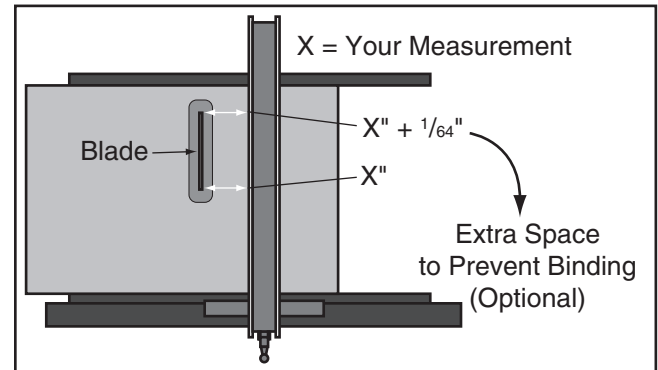

Figure 119. Adjusting fence with a $\frac{1}{64}$ " offset.
Some woodworkers prefer to offset the rear of the fence $\frac{1}{64}$ " from the blade, as shown in **Figure 119**, to help prevent the workpiece from binding and burning.
4. Measure distance between tooth and fence face, as shown in **Figure 119**.